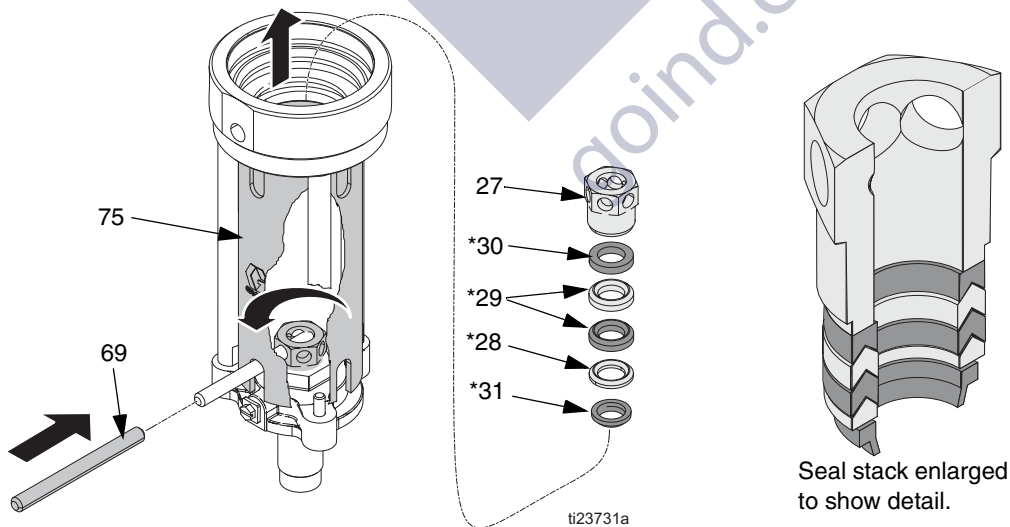

FIG. 25
12. Remove hex nut (27) from mounting flange (26). Remove female gland (30*), 2 PTFE packings (29*), male gland (28*) and wiper (31*). Inspect all parts for damage. See FIG. 25.